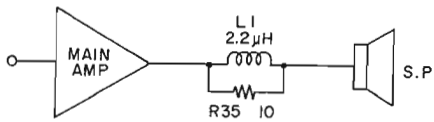
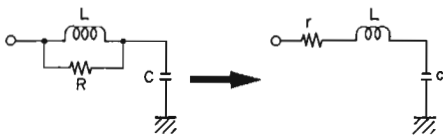

Fig. 11
Fig. 12
6. L1 and R35 Operation (Refer to Fig. 11, 12)
Fig. 11 shows the circuit. Fig. 12 shows the equivalent circuit.